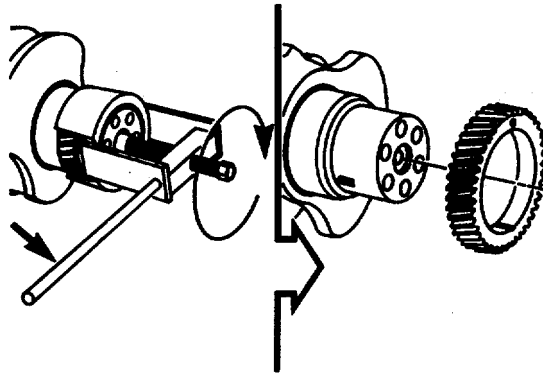

FIGURE 4-51. *Crankshaft Gear Removal.*
- (1) Install puller jaw and bridge assembly on crankshaft (FIG. 4-51).
- (2) Lubricate puller screw with clean engine lube oil.